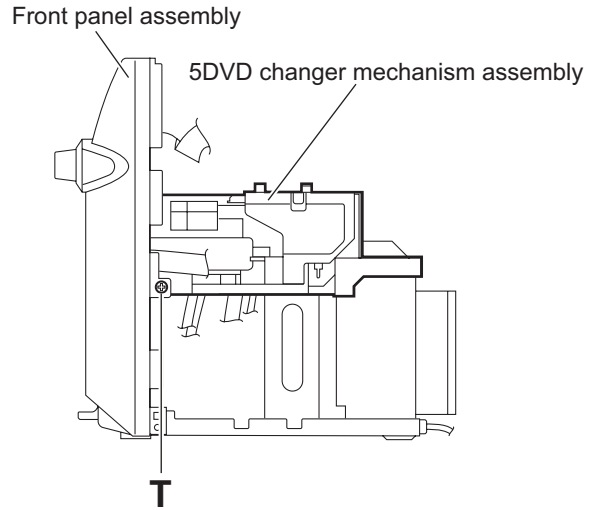

Fig.21
### 3.1.11 Removing the 5DVD changer mechanism assembly (See Figs.21 to 23)
- (1) From the both sides of the main body, remove the two screws **T** attaching the 5DVD changer mechanism assembly to the front panel assembly. (See Figs.21 and 22.)
- (5) From the both sides of the main body, remove the two screws **T** attaching the 5DVD changer mechanism assembly to the front panel assembly. (See Figs.21 and 22.)